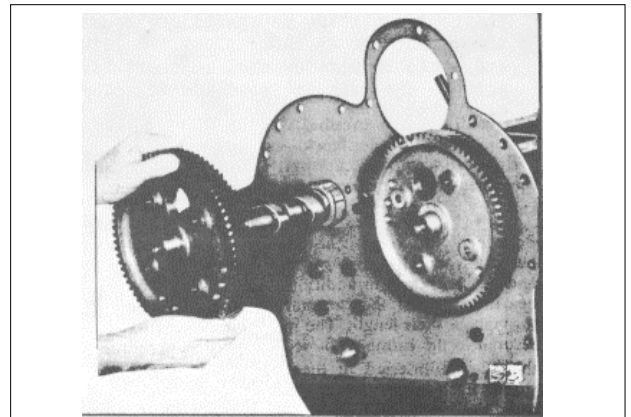

Fig. 5 Removing or Installing Camshaft Assembly
- (16) Withdraw each camshaft, bearing and gear assembly from the cylinder block as shown in Fig. 5.
- (17) Remove the camshaft front end bearings retaining bolts. Then withdraw the bearings.